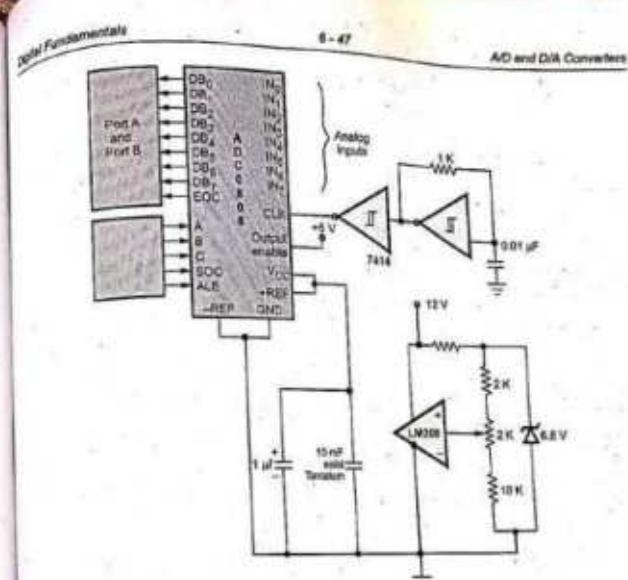

Fig. 6.11.3 Typical interface for 0808/0809
- Fig. 6.11.3 shows typical interfacing circuit for ADC 0808 with microprocessor system.